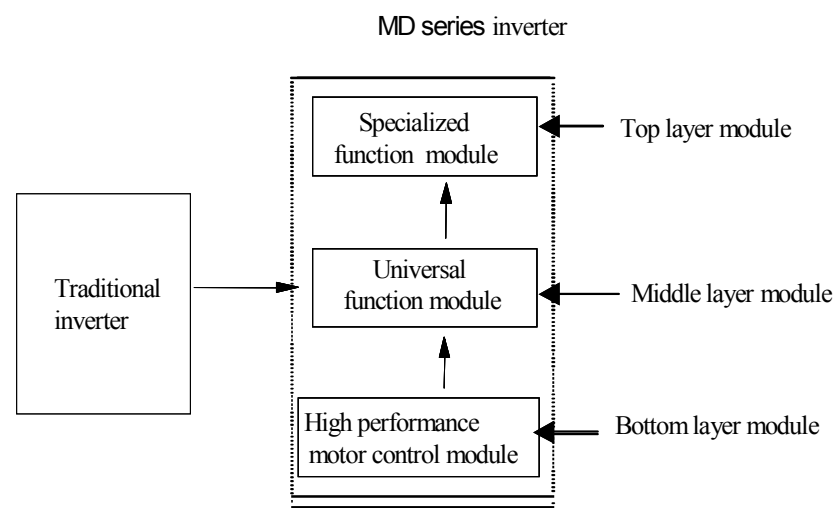

Fig. 1 Comparison between traditional inverter and MD series inverter
- 1: It initially creates the 3-layer modular architecture standard of the new generation inverter, as shown in Fig. 1.